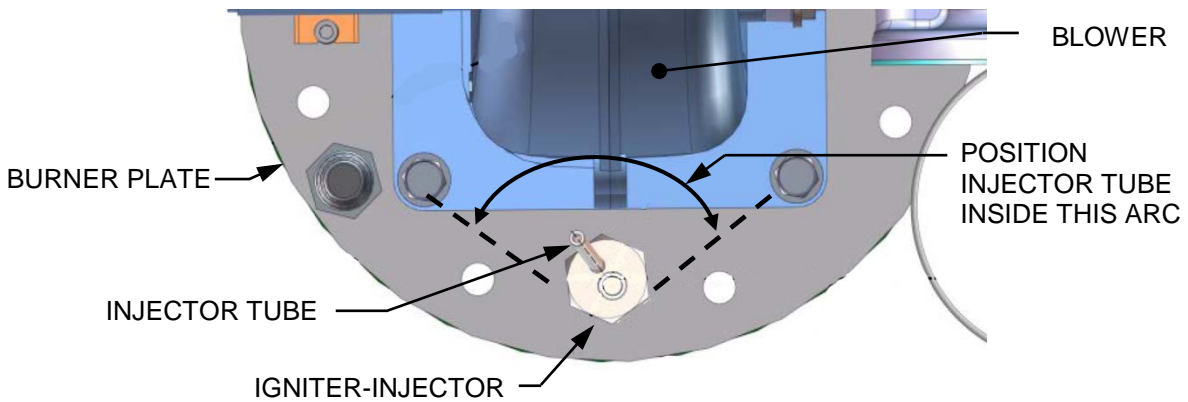
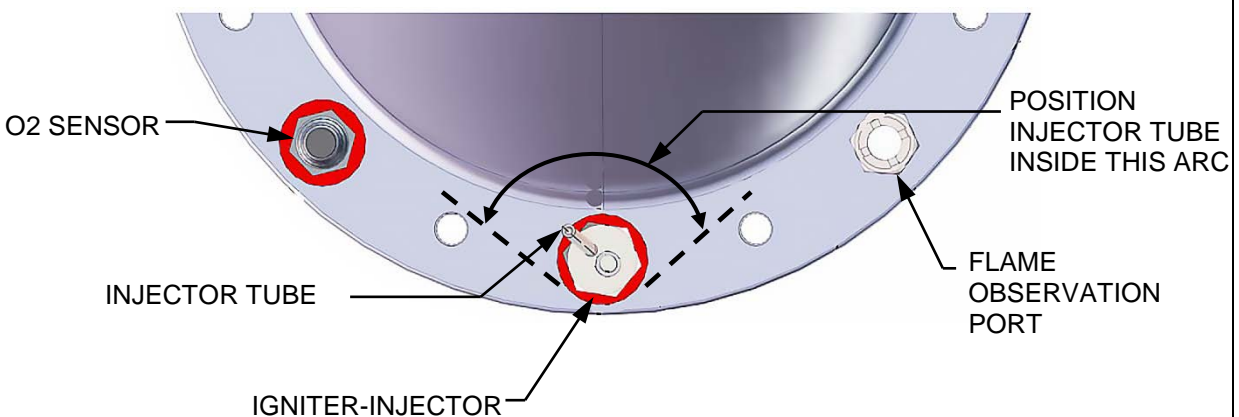

Figure 4-3a: BMK 750/1000 Igniter-Injector Orientation
Figure 4-3c. BMK 2500/3000 Igniter-Injector Orientation
8. Reinstall the igniter-injector in the burner plate using 1 to 3 indexing washers, as needed, so that when the igniter-injector is tightened, its injector tube will be positioned within the approximately 120° arc shown in Figure 4-3a through Figure 4-3c, below. Note, the recommended injection tube positioning differs for the positioning recommended in the past.
During reassembly, apply a light coating of high-temperature, anti-seize lubricant to the threads of the igniter-injector and grounding screw. Also, ensure that the igniter-injector is properly positioned as indicated in Figure 4-3a. Torque the igniter-injector to **14 - 15 ft-lbs. (19.0 - 20.3 Nm)**.